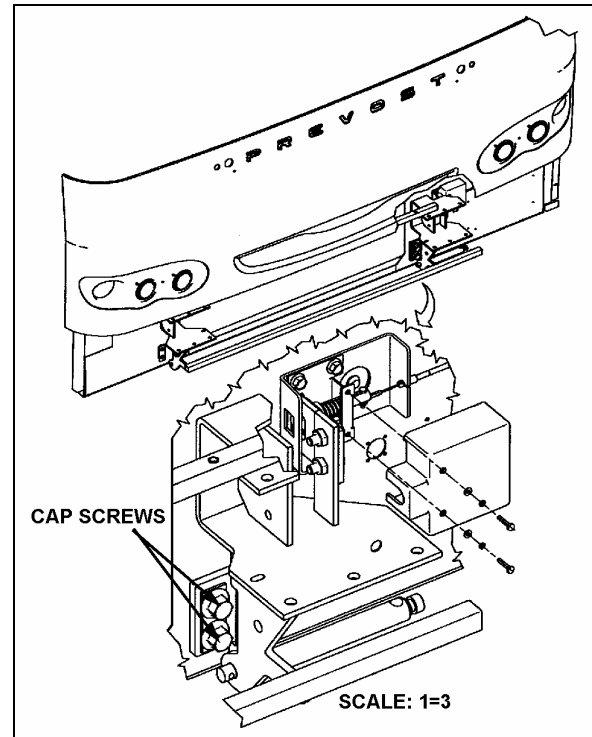

FIGURE 10: FRONT BUMPER ASSEMBLY 18499
2. Remove 4 cap screws holding bumper to vehicle and remove bumper (Fig. 10).